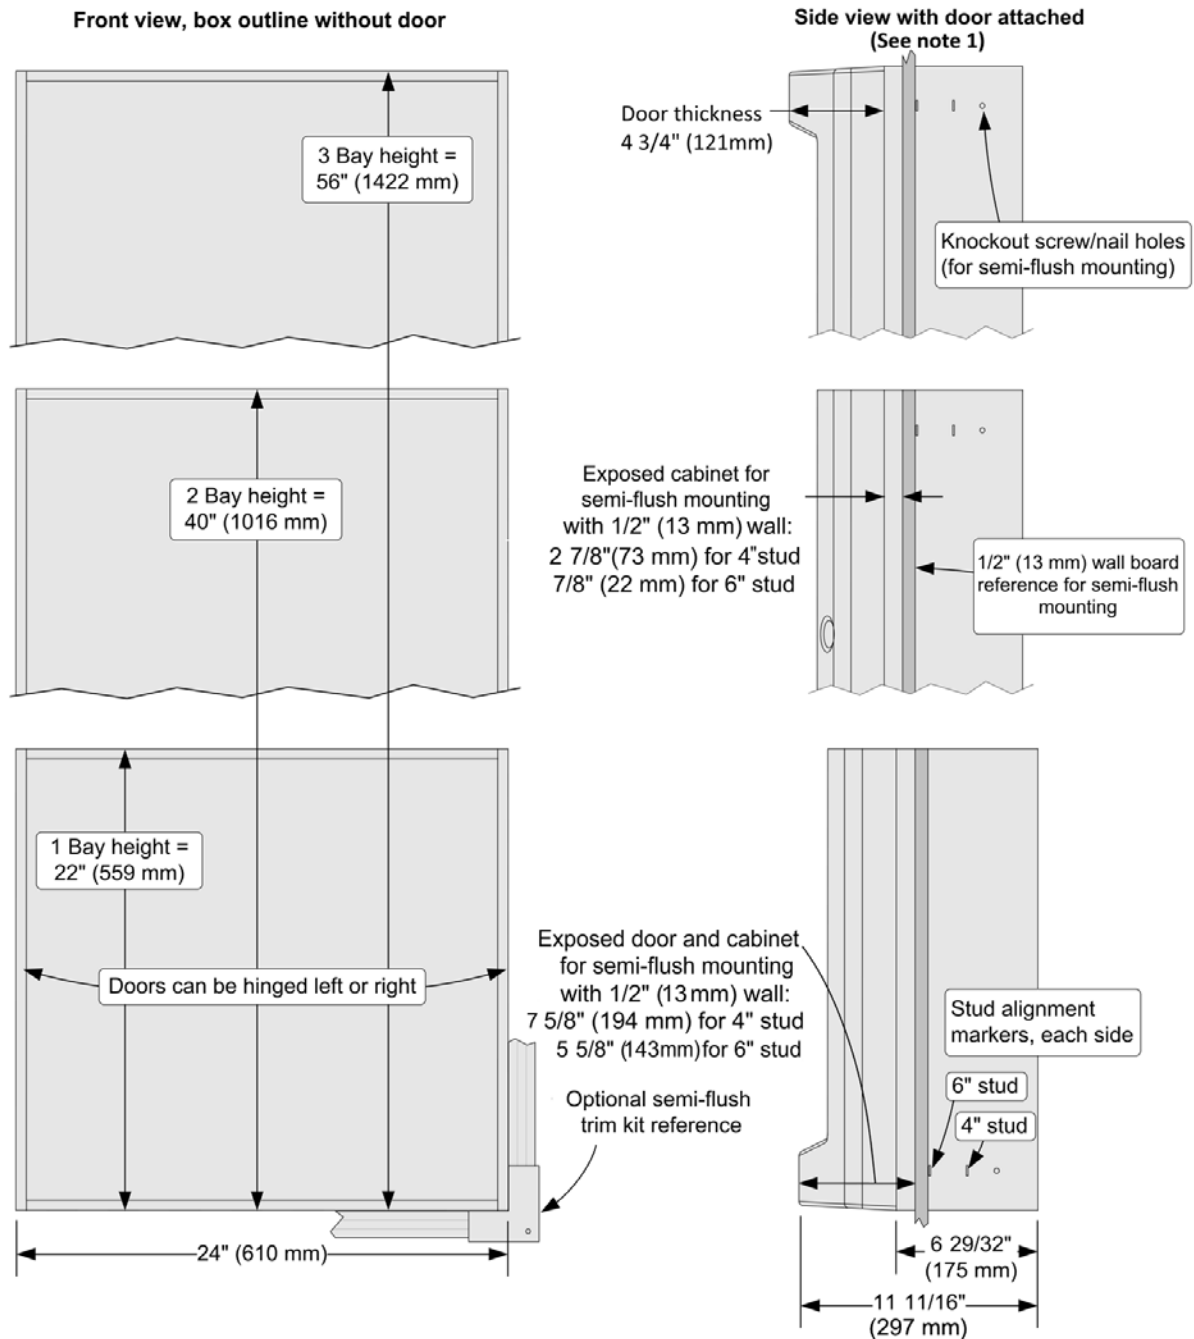

Figure 4: Installation reference
1. Figure 4 shows side view dimensions with minimal cabinet and door protrusion from the exterior wall. For 6 in. stud construction with minimum protrusion shown, the door opens 90 degrees. To allow the door to open 180 degrees, the exposed cabinet dimension from the exterior wall must be a minimum of 3 in. (76 mm) for both 4 in. and 6 in. stud construction.